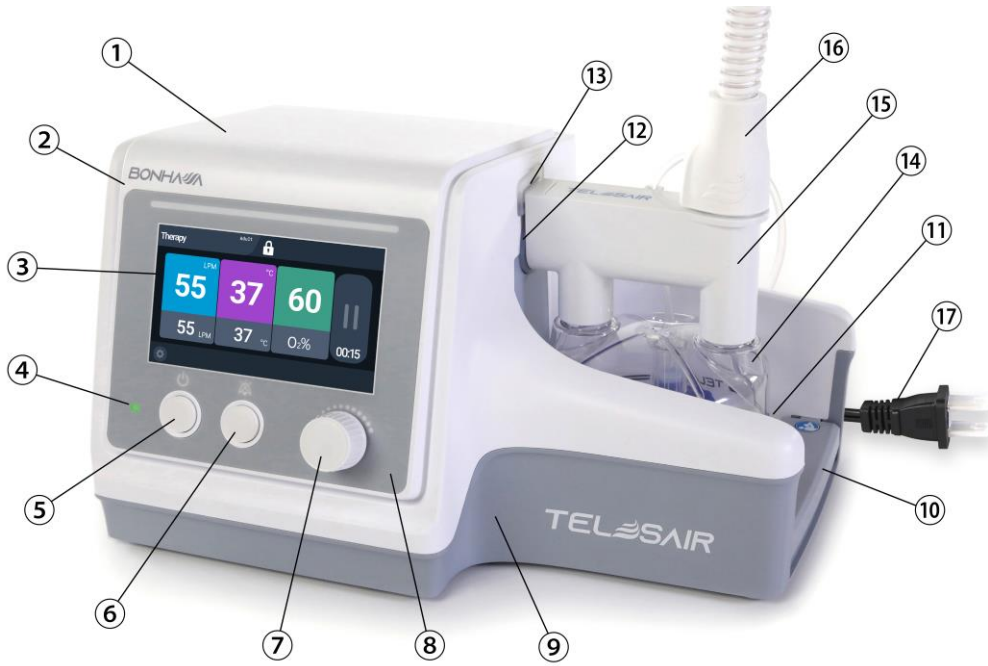

Figure 12-3 Component Diagram of Bonhawa Respiratory Humidifier, Front View
4. Press the finger guard of the device and slide the heated breathing set into the water chamber adaptor interface (13 in Figure 12-3) until the finger guard clicks into place.